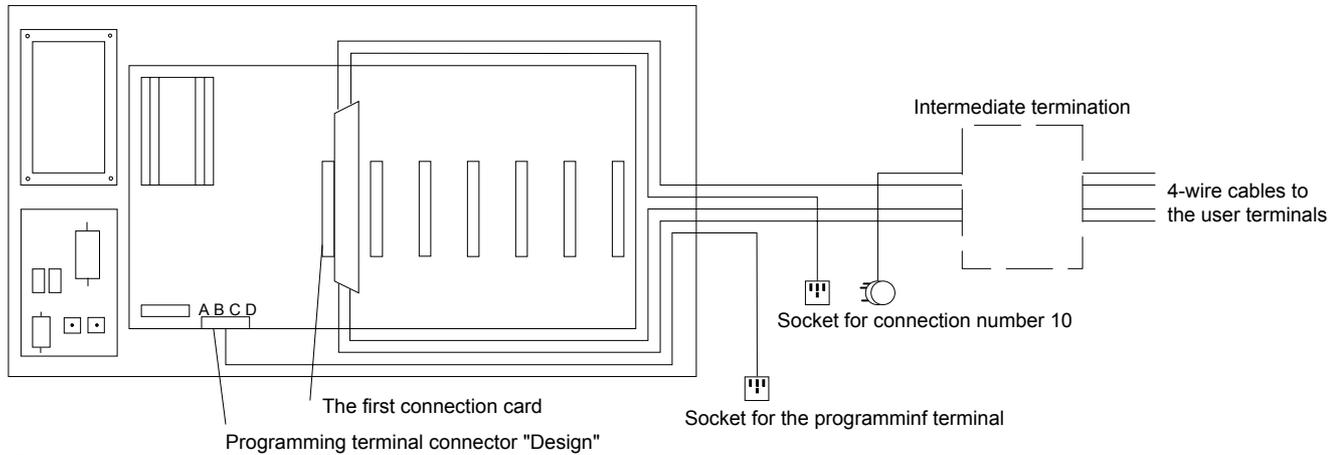

Figure 8
Close to the central cabinet two ESMI wall sockets are installed, one as the socket for the user programming terminal and the other for use during the taking into use of the system, and later for use during maintenance. The connecting of these two sockets is shown in figure 8.
7. Connect terminal number 10 directly to the central: use the socket installed for maintenance use, if there is one as recommended, see figure 8 in section 3.2.3, or connect the terminal directly to the connection card.